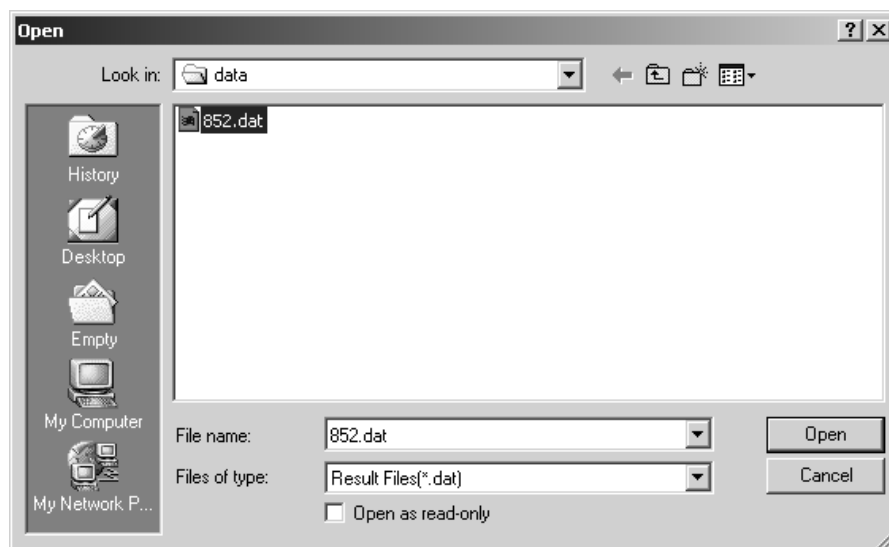

Figure 4.2. The window of Load
- 5) Select “File” of the main menu → Load to open the window of Load as Figure 4.2.